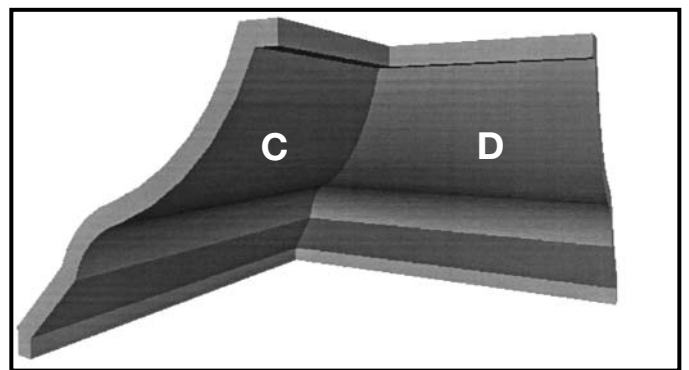

Fig. 36B
7. Fig. 36B illustrates the two inside corner pieces (C), and (D).